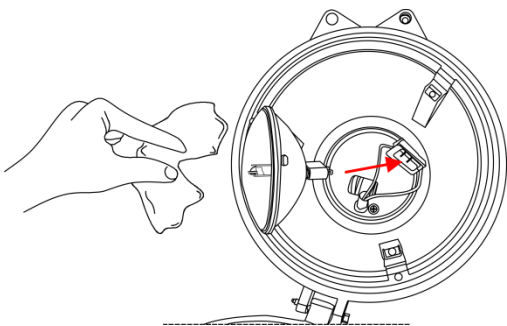
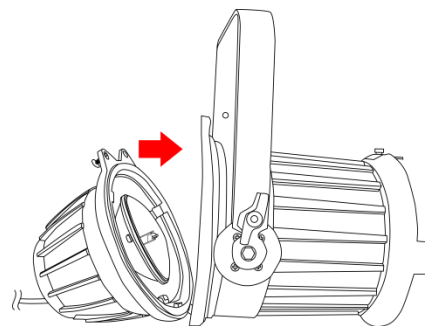

Fig. 05
Fig. 06
- 06) Insert the lamp and close the lamp housing (Fig.05 and Fig.06).